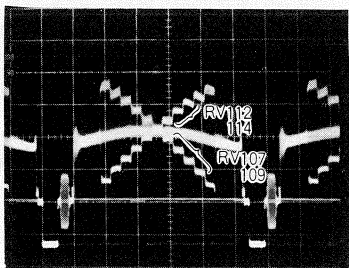

Fig. 79
4. Repeatedly turn RV107 and RV109 alternately to minimize the carrier in the 2nd ~ 6th steps from the bottom of the waveform (Refer to Fig. 79).